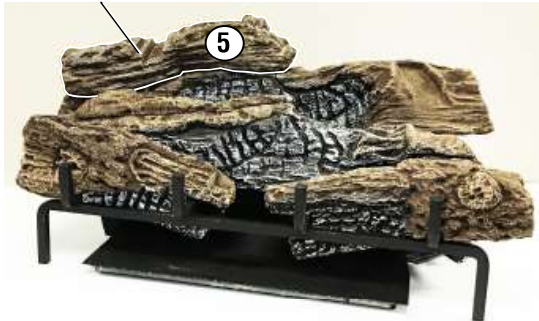

Figure 61 - Installing Log # 5
- Place the left top back log (#5) on top of the rear log. Match the rectangular projection on top of the left side of the rear log with the rectangular hole on the bottom of the left top back log. Match the metal pin on the top of the rear log with the round hole in the bottom of the left top back log. See **Figure 61**.